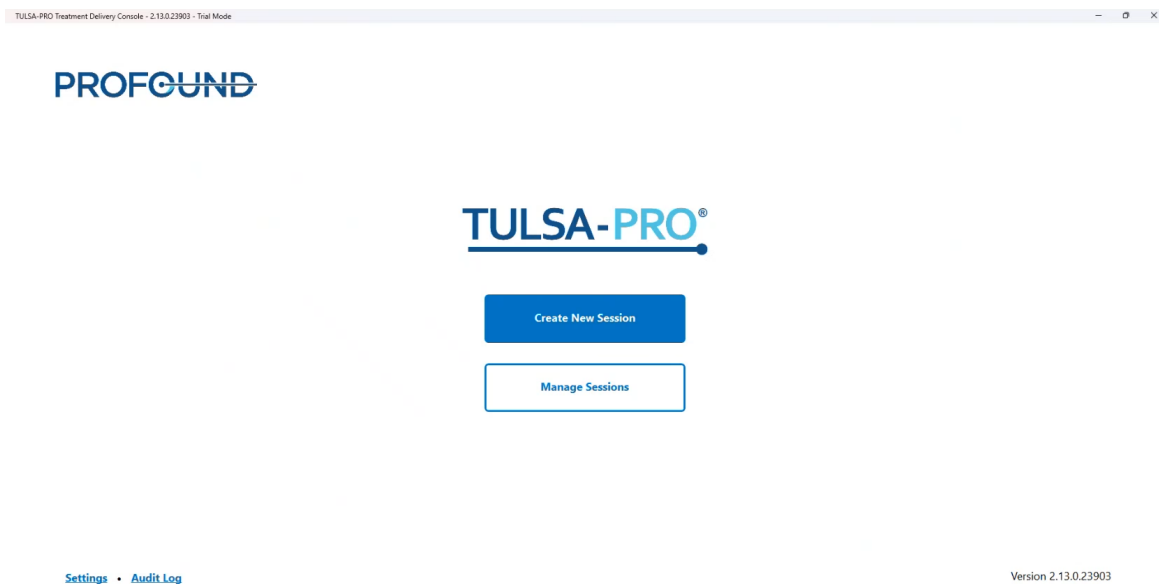

Figure 5: TULSA-PRO Start Screen
2. The **Start Screen** will appear (*Figure 5*). Click **Create New Session**.